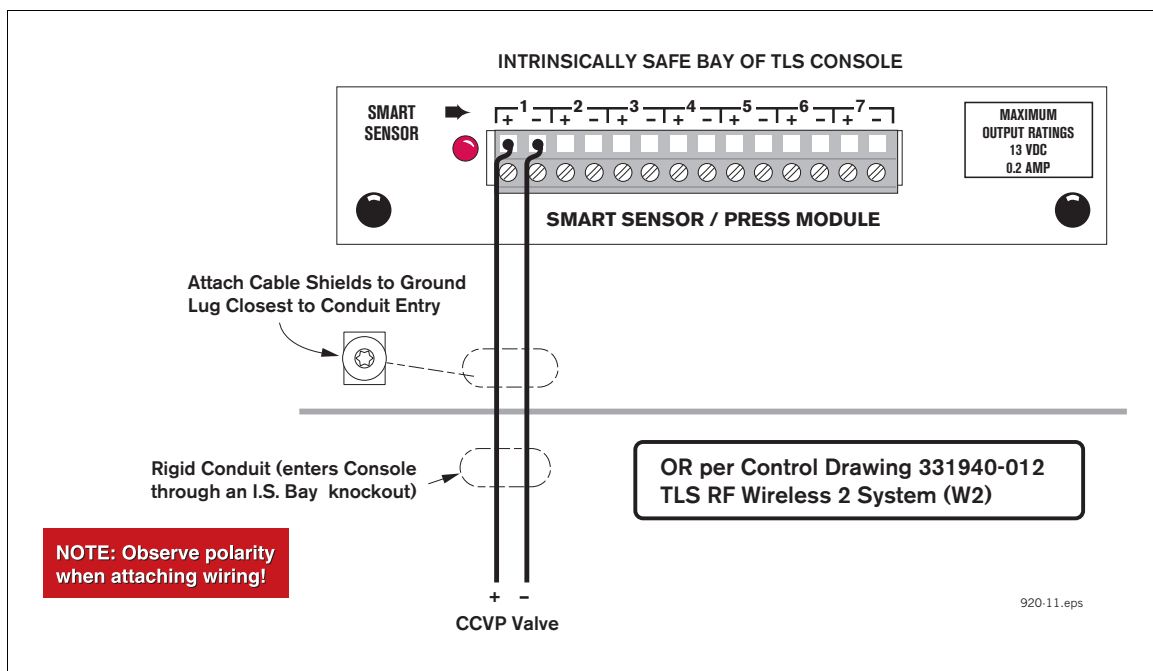

Figure 7. Attaching CCVP vapor valve wiring to TLS-350 console - direct-wired CCVP only
14. Attach CCVP vapor valve field wiring to the smart sensor interface module in the TLS console as shown in Figure 7.